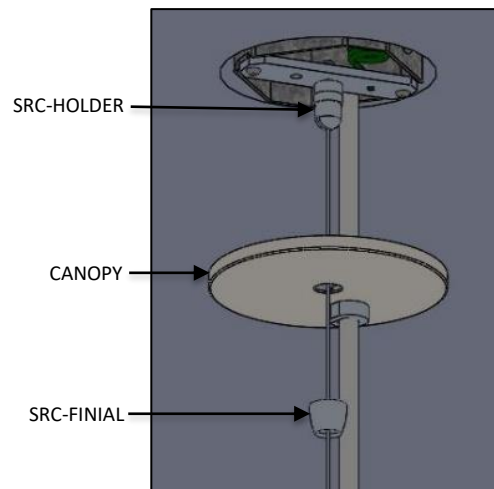

FIG. 22 – FINIAL INSTALLATION
19. Raise CANOPY and secure to ceiling by threading the SRC-FINIAL to SRC-HOLDER.as shown below in FIG.22.